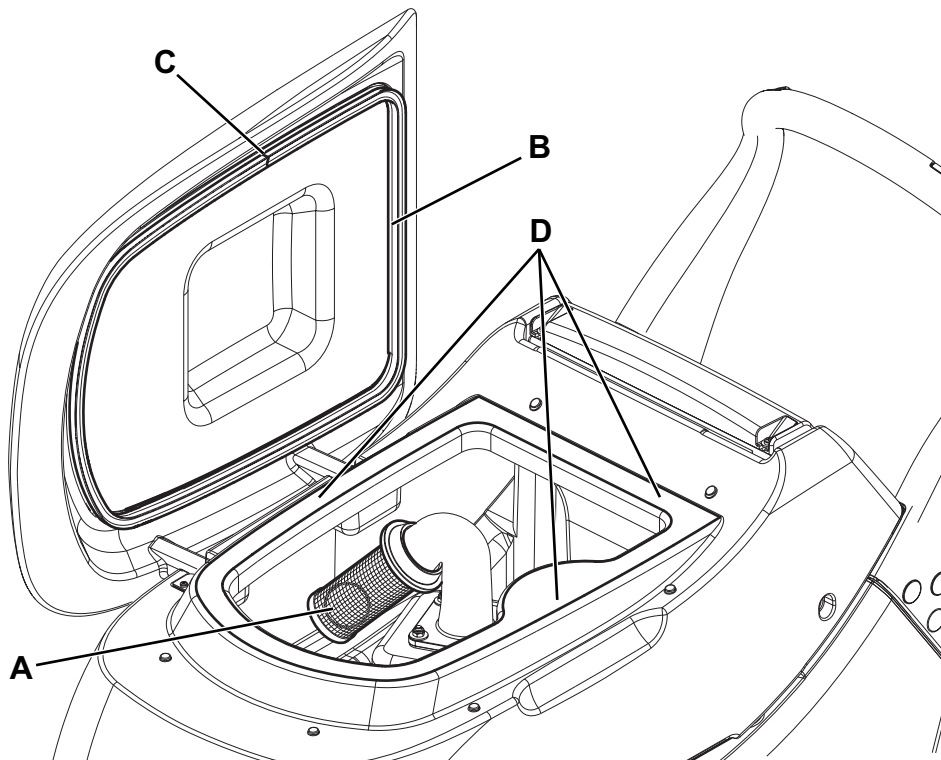

Figure 6
3. Drain the water from the tanks (15 and 16) through the drain hose (11) and hose (12).
4. Open the cover (17), then clean and wash the cover, the tanks and the vacuum grid (30) with clean water.
5. If necessary, remove the grid (A, Fig. 6) clean it carefully and reinstall it.
6. Check the recovery tank cover gasket (B) for integrity.